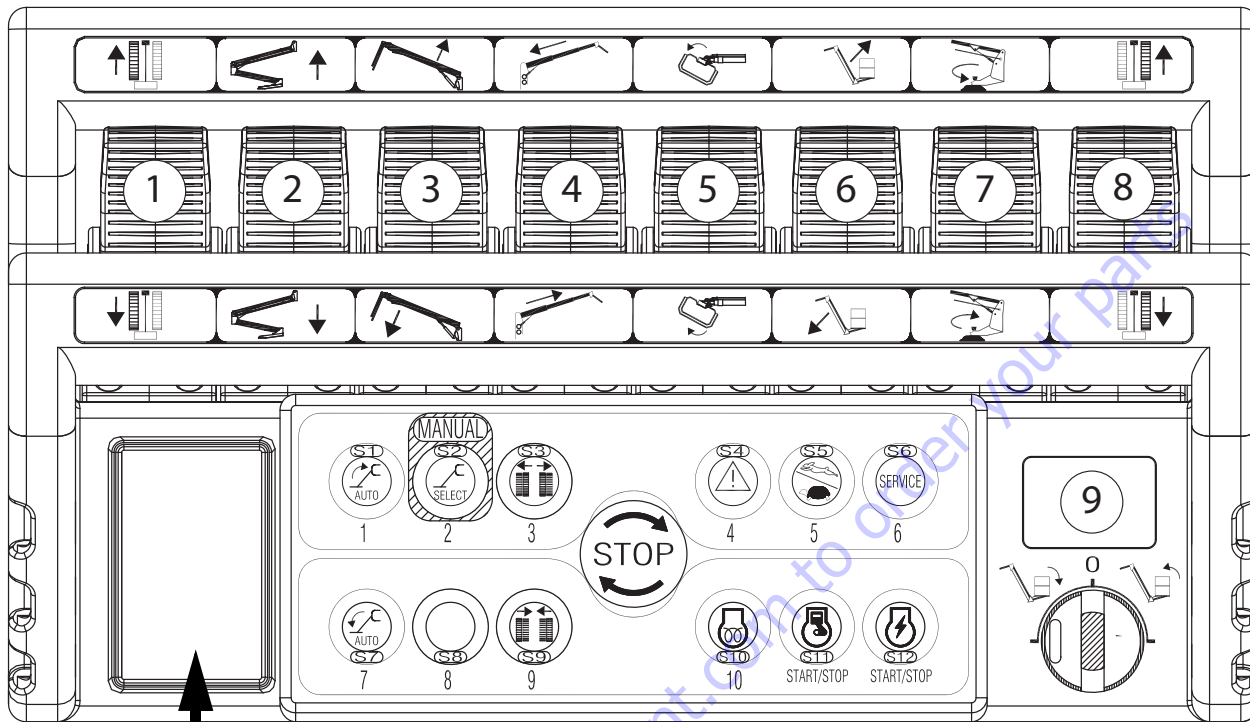

Figure 6-1. Remote Control
At machine start-up and during machine operation the main LCD display screen (Figure 6.1) is activated. There are eight (8) display positions which indicate machine status during various stages of operation.